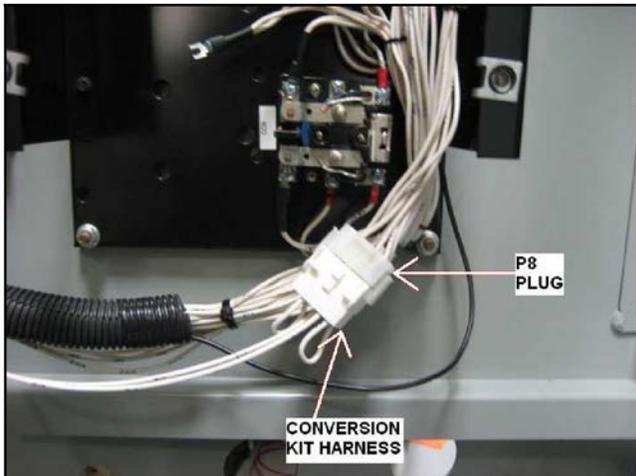

**Figure 46** Disconnect Plug P8
30. Disconnect plug P8 from the upper board. See Figure 46. Cut lead 33 (pin location: 15 on plug P8). See Figure 47.